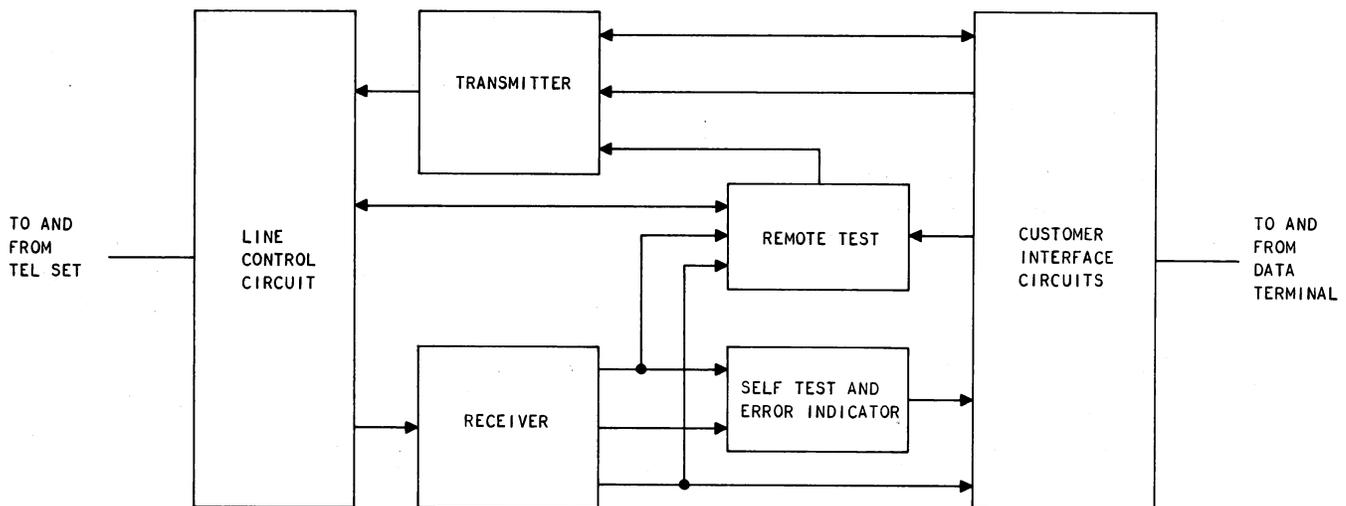

Fig. 5—Block Diagram—Data Set 208BR-L1C
3.01 This part contains information pertaining to the data set transmitter, receiver, interface leads, and options. Refer to Fig. 5 for a block diagram of the data set.